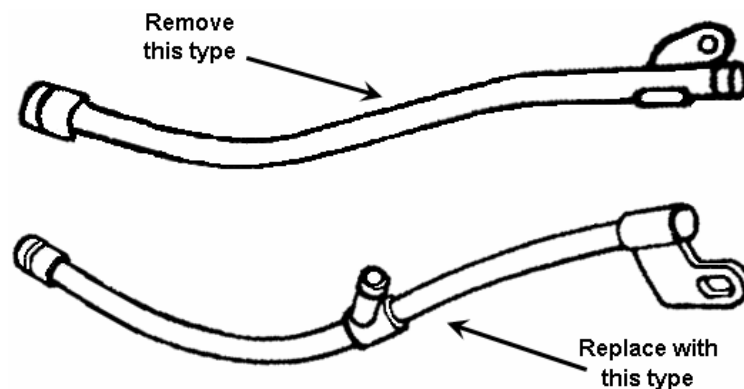

Figure 5 Original and Replacement Dip Stick Guide Tubes
- (5) Remove and set aside the dip stick. Remove the dip stick guide tube (Table 2, Item 24). Apply a light coat of clean engine oil or grease to the seal and fit the new FFR type guide tube (Table 1, Item 14) (see Figure 5). Ensure the bottom seal is properly seated before tightening the top mounting bolt. Replace the dip stick in the new guide tube.